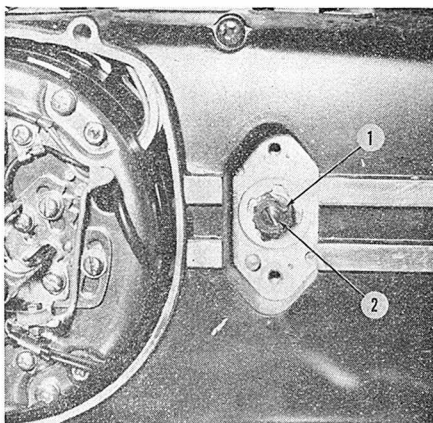
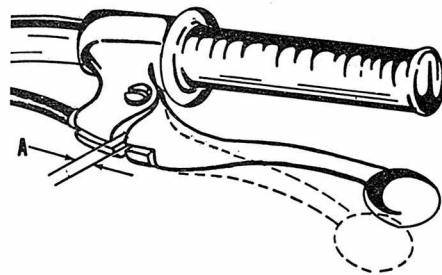

Fig. Y11-5—Clutch adjustment point on left side of engine.
Fig. Y11-6—Adjust clutch cable to obtain  $\frac{1}{16}$ – $\frac{1}{8}$  inch free play at (A).
**CLUTCH CONTROLS.** To adjust clutch, remove the small cover on left side of engine case. Loosen lock nut (1—Fig. Y11-5) and turn screw (2) in until it seats lightly. Back screw out  $\frac{1}{4}$  turn and tighten lock nut. The clutch lever should be adjusted to provide  $\frac{1}{16}$ – $\frac{1}{8}$  inch free play. Refer to Fig. Y11-6.